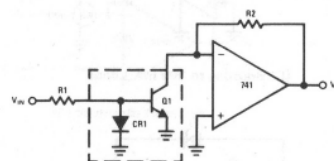

FIGURE 8. Extending the Gain-Bandwidth Product
Another application of the input "current mirror" is shown in Figure 8. If a "current mirror," CR1 and Q1, is added to the input of a typical IC op amp (741), the gain-bandwidth product can be extended. The isolation provided by the "current mirror" allows a constant unity voltage gain feedback for the main inverting amplifier. This